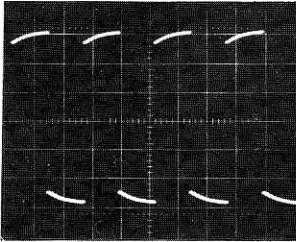
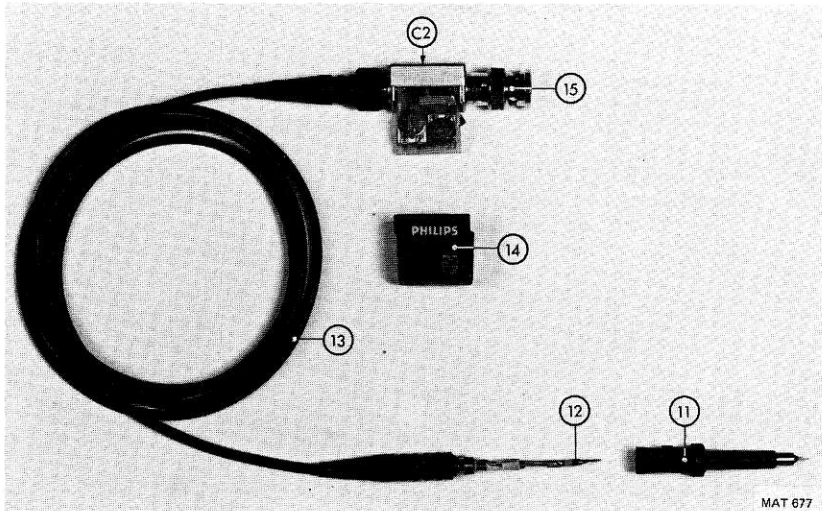

Fig. 4. Over-compensation
Fig. 10. Dismantling
A trimmer C2 (Fig. 10.) can be adjusted through a hole in the compensation box to obtain optimum square-wave response. See Fig. 4, 5 and 6.
4.1. Dismantling the probe (see Fig. 10.)
4.2. Dismantling the compensation box (see Fig. 10.)
6.1. Mechanical parts (see Fig. 10 and 11)